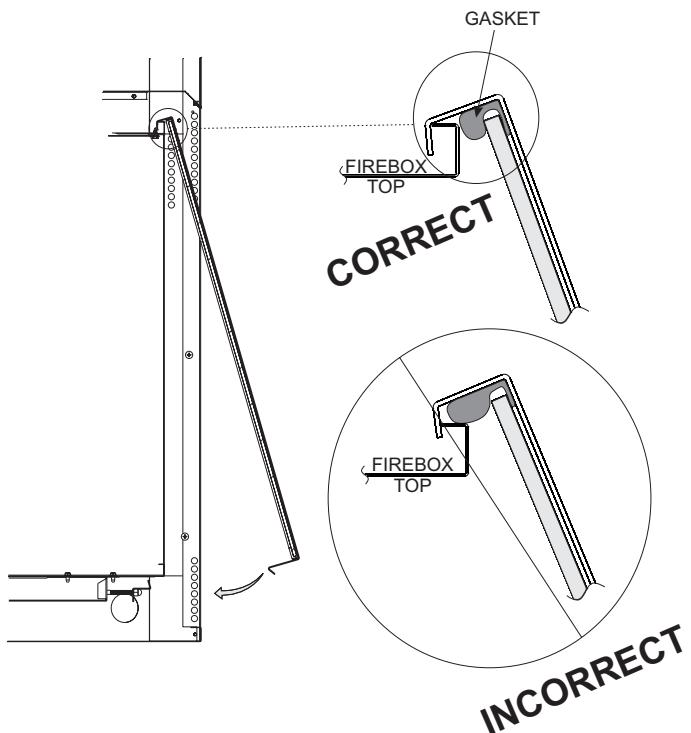

Figure 78
7. Reinstall glass front by hanging the top of the frame on top of the firebox, making sure the gasket at the top is positioned in front of the firebox flange and not on top **See Figure 78**.
1. When installing the glass door, make sure that the door top flange is hooked over the firebox top flange as illustrated in the "Correct" view in **Figure 78**.
**Important: Do not allow the gasket across the top of the door to roll up on top of the firebox flange as shown in "Incorrect" view in **Figure 78**.**